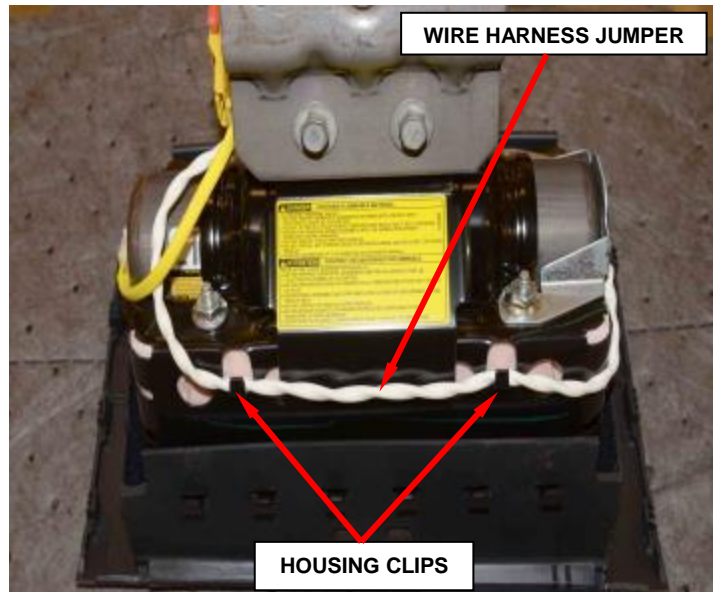

Figure 80 – Passenger Airbag Assembly
- b. Disengage the wire harness jumper from the housing clips in two places (Figure 80).